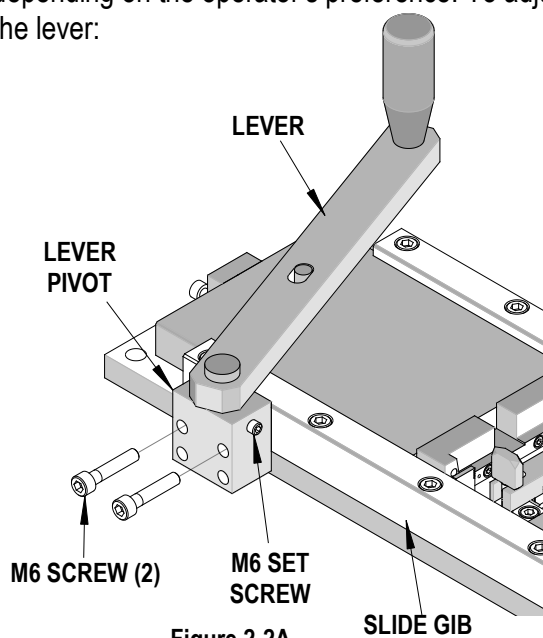

Figure 2-2A
1. Remove the two M6 screws from the lever pivot mounted to the side gib. See Figure 2-2A.